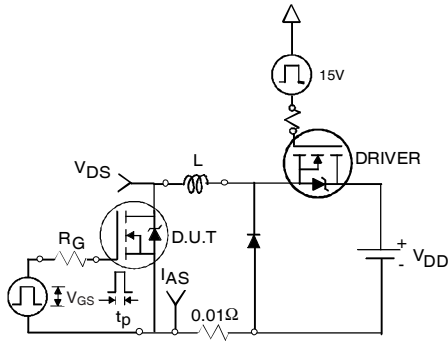

Fig 12a. Unclamped Inductive Test Circuit
- ③ $I_{SD} \leq 104A, di/dt \leq 240A/\mu s, V_{DD} \leq V_{(BR)DSS}, T_J \leq 175^\circ\text{C}$
- ④ Pulse width $\leq 400\mu s$; duty cycle $\leq 2\%$.
- ⑤ $C_{oss\ eff.}$ is a fixed capacitance that gives the same charging time as C_{oss} while V_{DS} is rising from 0 to 80% V_{DSS} .
- ⑥ Calculated continuous current based on maximum allowable junction temperature. Package limitation current is 75A.
- ⑦ Limited by T_{Jmax} , see Fig.12a, 12b, 15, 16 for typical repetitive avalanche performance.
- ⑧ This value determined from sample failure population. 100% tested to this value in production.
3. Equation below based on circuit and waveforms shown in Figures 12a, 12b.